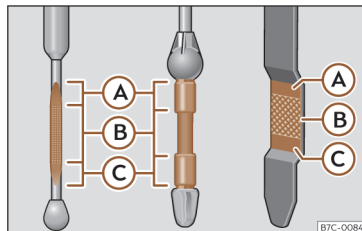

Fig. 210 Engine oil dipstick.
- Then pull it out once more and check the oil level >>> Fig. 210. Top up with engine oil if necessary.
- When the oil level reaches at least zone >>> **Fig. 210 (B)**, unscrew the engine oil filler cap carefully >>> ⓘ.
If the oil level is above area >>> **Fig. 210 (A)**, do not start the engine. This could result in damage to the engine and catalytic converter. Contact a specialised workshop.
The oil level must never be above zone >>> **Fig. 210 (A)**. Otherwise oil can be drawn in through the crankcase breather and leak into the atmosphere via the exhaust system.